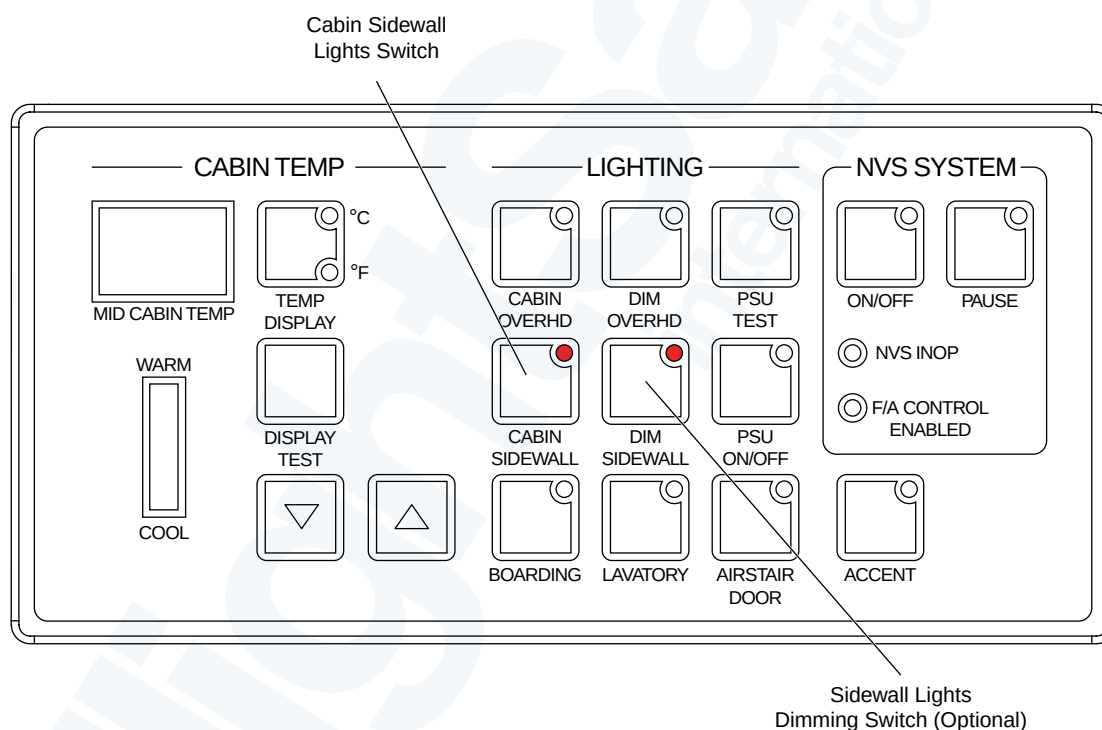

Figure 33-31. Sidewall Lights Switches
- Figure 33-31. Sidewall Lights Switches.